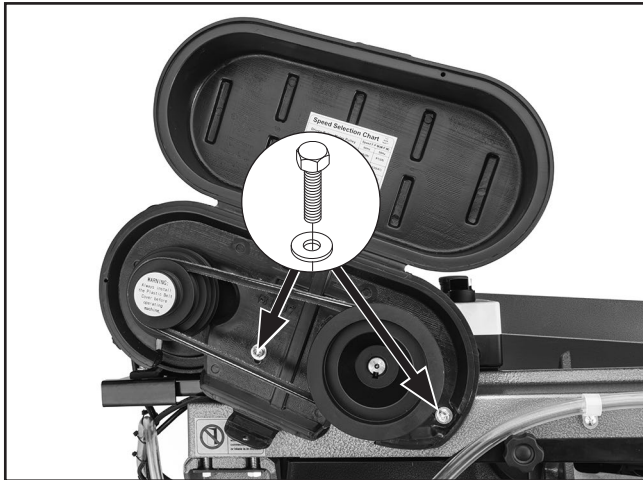

Figure 25. Pulley cover installed.
4. Slide pulley cover over pulleys (see **Figure 25**).
5. Align (2) holes in pulley cover with (2) holes from fasteners removed in **Step 3**, then use fasteners to secure pulley cover (see **Figure 25**).